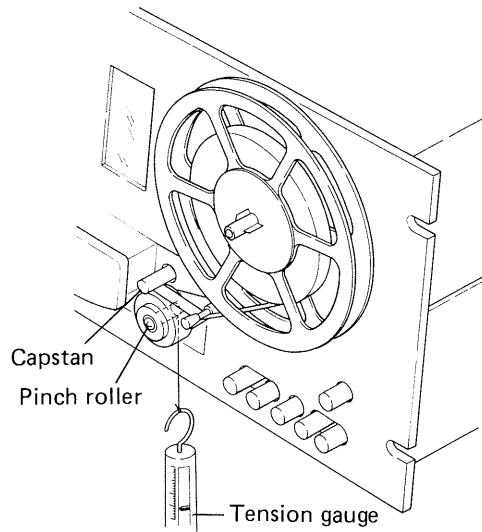

Fig. 24
4. Hook a tension gauge to the pinch roller and confirm that the tape is stopped within a range of 1.1 ~ 1.4kg (Fig. 24).